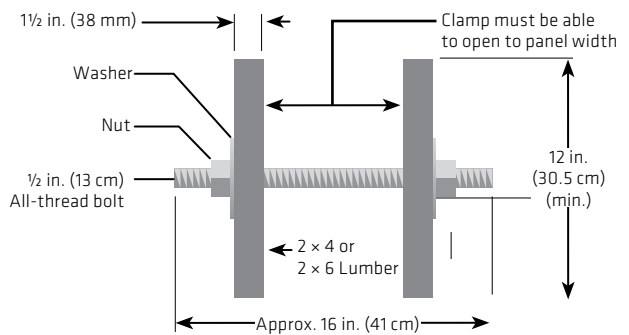

FIGURE 4: Standard clamp: one per vertical joint
- ▶ Standard and bracing header clamps, and the corresponding threaded rods, washers and nuts (Figures 4 and 5)